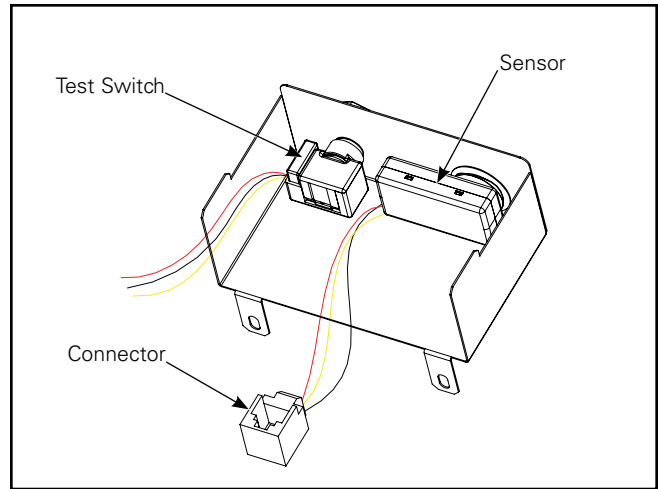

**Figure 7.**
1. EM UNIT - Install EM unit into existing fixture housing. EM unit should be mounted so that there is sufficient cable length to make all connections to LED driver and EM test switch. Mount EM unit near the end of the housing where the EM test switch will be located. (Figure 7.)